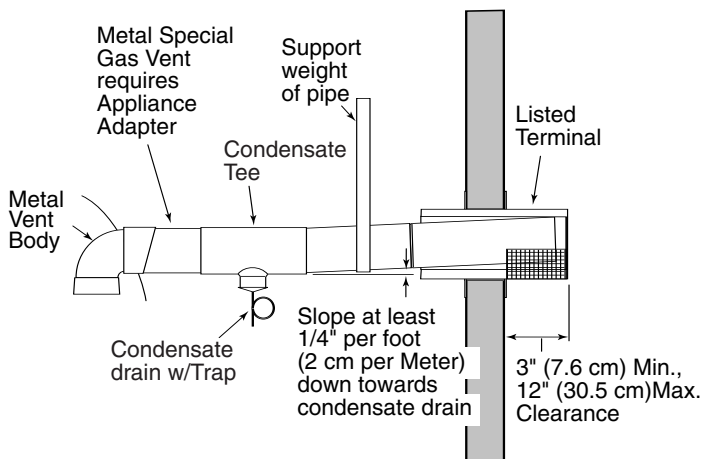

FIGURE 14: Typical Special Gas Vent Pipe Installation
- at least 3" and at most 12" out from the wall (see Figure 14), following the vent manufacturer's instructions.